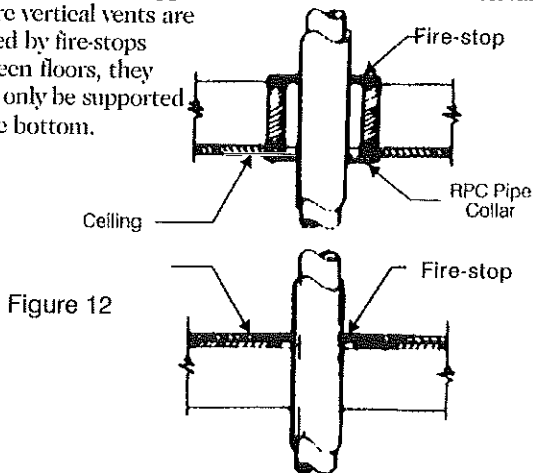

Figure 12
- In single-story, slab-floor houses having an attic space, a fire-stop must be provided where the vent passes through the ceiling, unless an RSA support is used there. The ceiling should be cut away and the opening framed to **PROVIDE 1-INCH MINIMUM CLEARANCE** from the vent pipe. A fire-stop consisting of a noncombustible material, such as ½-inch thick ceramic board or 26-gauge galvanized sheet metal, should be cut to fit the pipe and the framed opening. The fire-stop should be fastened to the top of the joists and framing members to eliminate any pockets in which combustible debris might collect. An RPC pipe collar may be used on the underside of the ceiling to finish off the opening (Figure 12).
- In single-story buildings with an attic space and with the gas appliance located in a basement or crawl space, fire-stops must be provided where the vent passes through both the floor and the ceiling. This can be done by cutting away and framing the floor and ceiling construction and installing fire-stops of noncombustible material as shown in Figure 12. All combustible construction should be cut away sufficiently to **PROVIDE THE MINIMUM CLEARANCE OF 1 INCH FROM THE VENT PIPE SURFACE.**